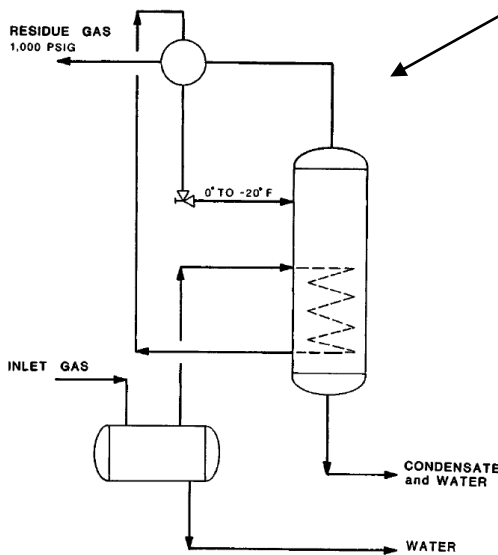

Figure 2-15. Low-temperature exchange unit.
2. Use a Low-temperature Exchange (LTX) unit designed to melt the hydrates as they are formed. Figure 2-15 shows the process. LTX units require inlet pressures greater than 2,500 psi to work effectively. Although they were common in the past, they are not normally used because of their tendency to freeze and their inability to operate at lower inlet pressure as the well FTP declines.